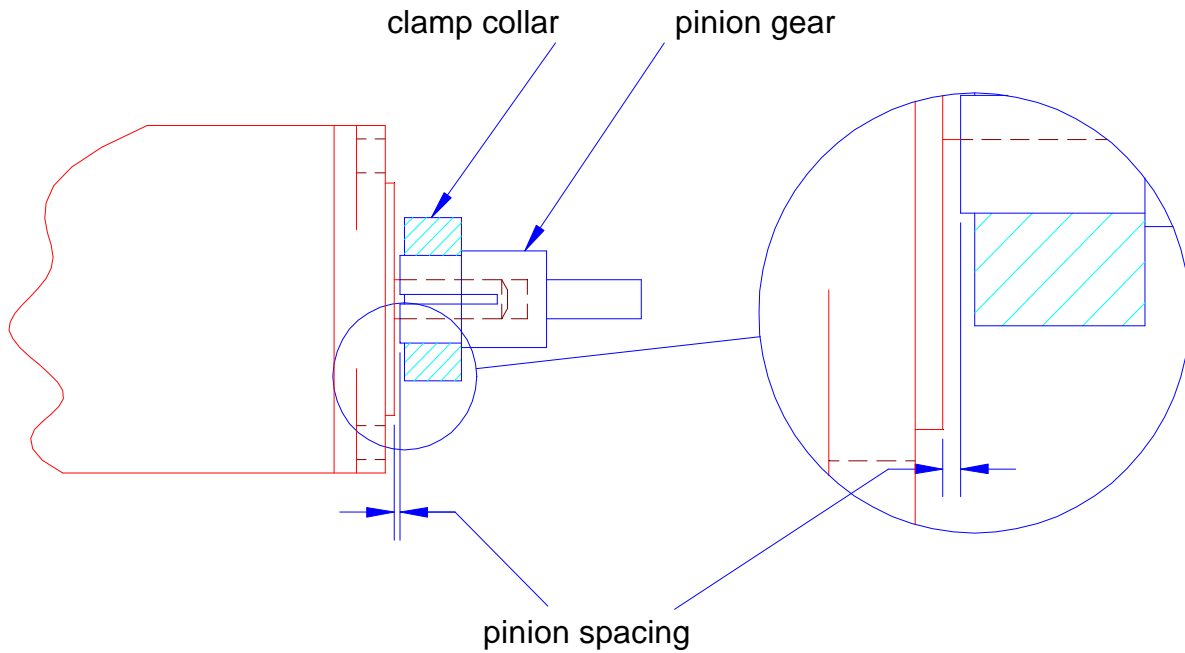

figure 2
4. Set the spacing between the motor pilot face and the pinion gear using a pin or feeler gage of the size shown in the table above. (figure 2, over)